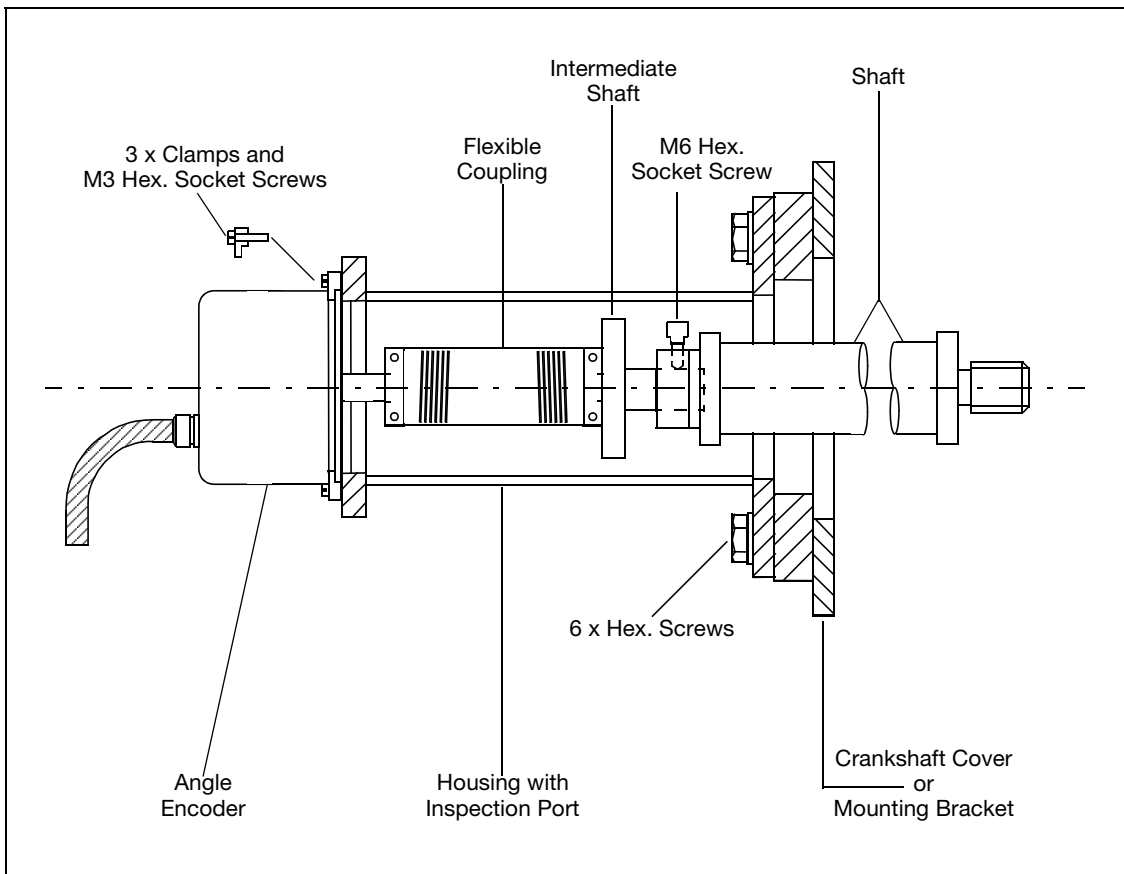

Fig. A-6 Mounting of the Angle Encoder
2. Loosen the 3 x M3 hexagonal socket head screws, clamping the Angle Encoder to the Cylindrical Housing at the free end of the crankshaft. See Fig. A-6.
4. Tighten the 3 x M3 hexagonal socket head screws on the Angle Encoder. See Fig. A-6.